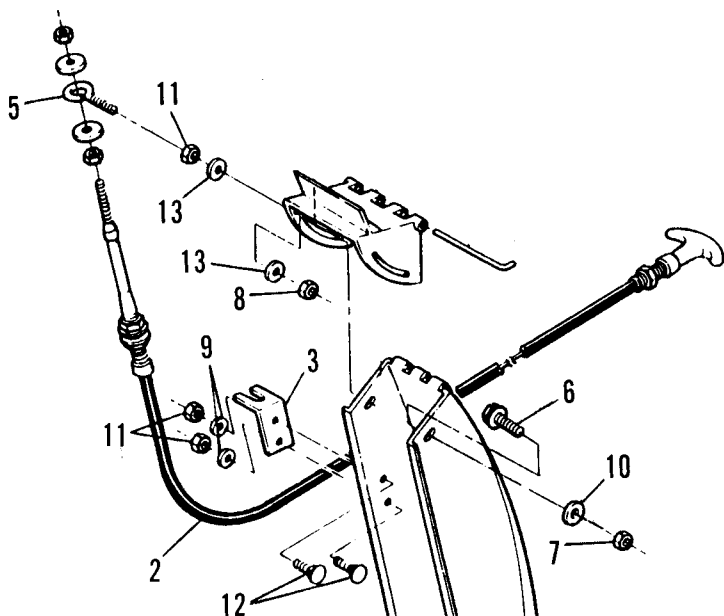

FIGURE 2
**STEP 4:** Install cable mount (item 3) using two 1/4"x1/2" carriage bolts on inside of chute and secure with two 1/4" internal tooth lock washers and 1/4" hex nuts. See figure 2. Remove wing nut, washer and carriage bolt from left side of deflector and discard. Replace with 5/16x3/4" cap screw, washer and nut found in kit. Position these items the same as the right side and don't overtighten. Deflector has to be free to move up and down.